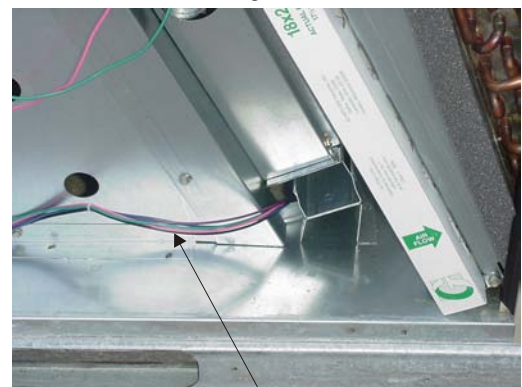

Figure 7
12. Route the 6-pin (pivoting) / 3-pin (fixed) connector P153 and wiring harness under the economizer and out the return air. Coil excess wire and route into return air of the rooftop unit. **See Figure 7.**